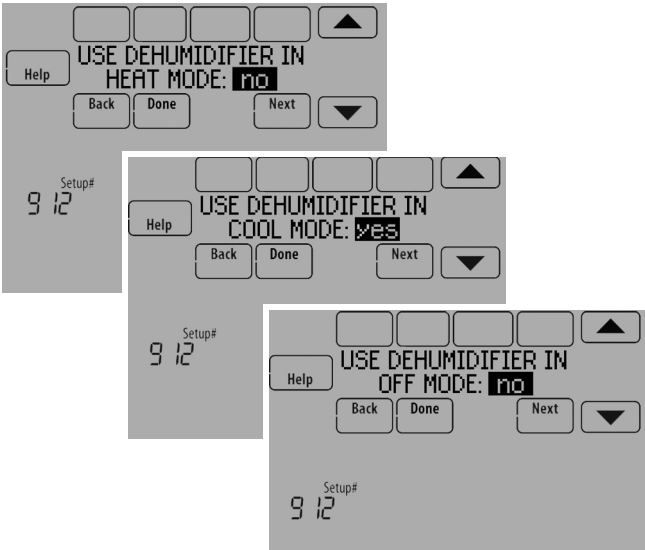

Fig. 220.
- 5. Select the system mode(s) to allow dehumidification. See Fig. 220.